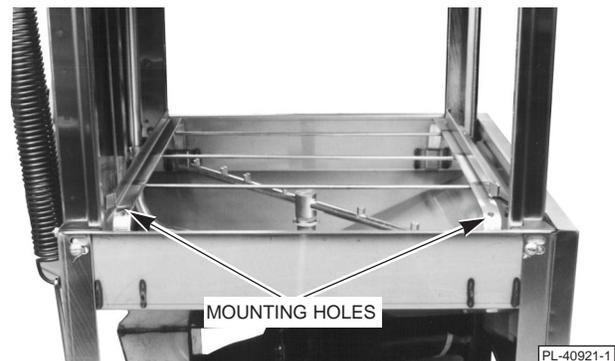

Fig. 3
3. With the two screws and nuts removed in step 2, reattach the front rack track and splash guard to the left side of the rack track assembly, using the mounting holes (Fig. 3) provided.